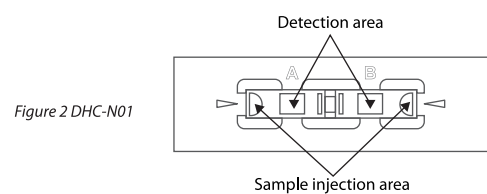

Figure 2 DHC-N01
The C-Chip (DHC-N01) is a disposable plastic hemocytometer used for manual cell counting. It consists of surface-patterned two enclosed chambers with two ports for sample injection (Fig. 2).
- Load 10 μ L of sample into the sample injection area in Fig. 2, so that it fills the chamber by capillary action.
- Load 10 μ L of sample into the sample injection area in Fig. 2.
- Load 10 μ L of diluted sample into the sample injection area in Fig. 2.